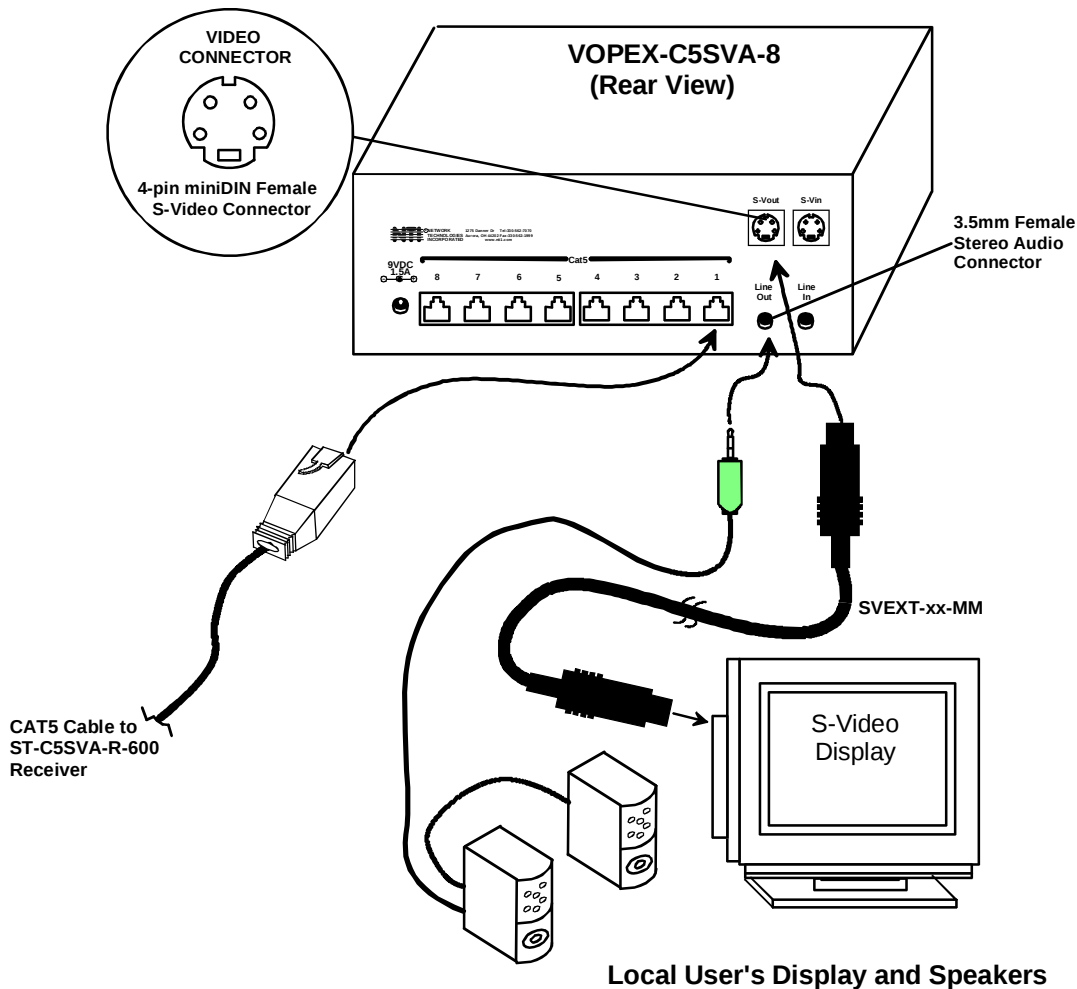

Figure 4- Connect Local User components and CAT5 cable to VOPEX-C5SVA-8
2. Connect the local user to the VOPEX-C5SVA-x (see Fig. 4)
3. Connect a CAT5 cable to any one of the "Cat5x" ports on the VOPEX-C5SVA-x. (See Fig. 4) When properly inserted the cable end should snap into place.